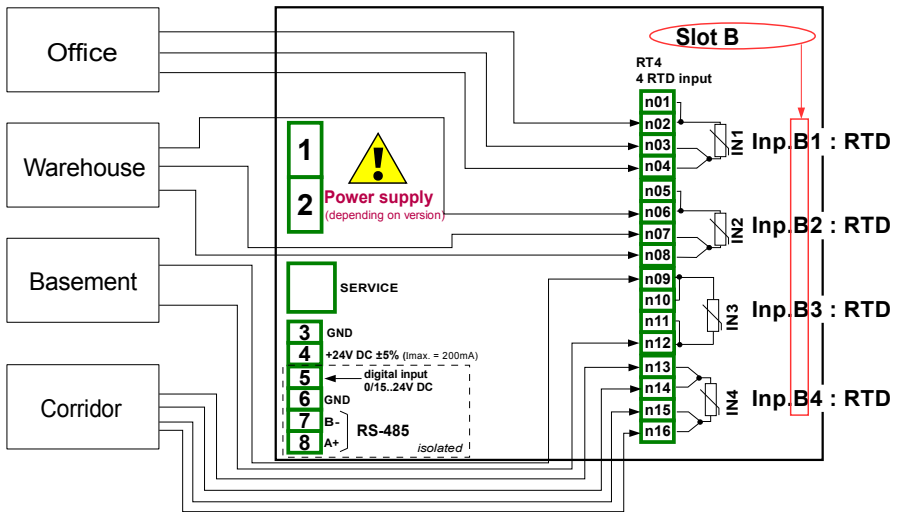

Fig. 7.71. Schematic diagram for the RT4 module
Before measuring the temperature the user should configure the device and then connect the sensors as shown in **Fig. 7.71**.
- **Source** parameter set as **Inp. B1: RTD** (see the connection in Fig. 7.71),